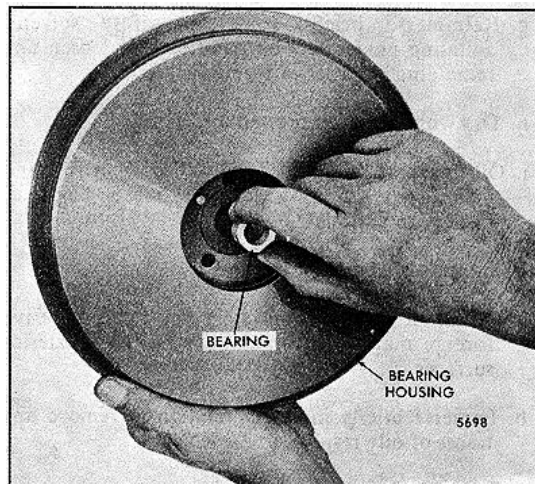

FIG. 11 - Removing Turbine Shaft Bearing from Bearing Housing
13. Remove and discard the turbine shaft bearing from the compressor end of the bearing housing bore (Fig. 11).